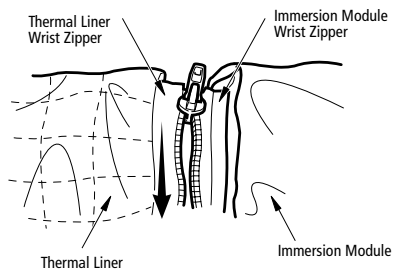

FIGURE 8
- Line up the zipper on the immersion module with the zipper on the cuff of the thermal liner and connect them (see fig. 8).